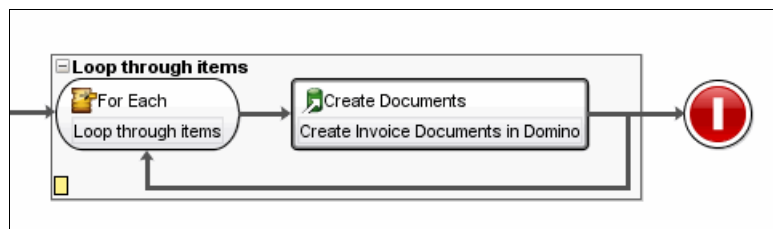

Figure 12-66 Inserting Create Documents activity
1. From the Activities tab, drag **Domino → Create Documents** inside the For Each block in the small empty square space. Rename it to **Create Invoice Documents in Domino**, as shown in Figure 12-66.